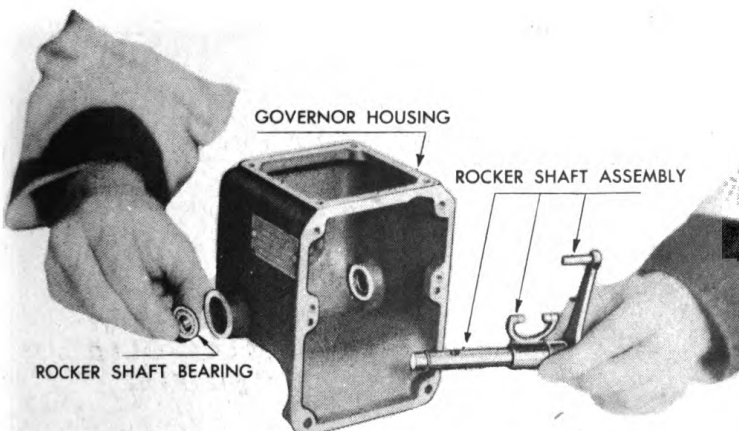

Figure 217. Removing Governor Rocker Shaft.
5. Drive out the throttle lever yoke and shaft assembly with a hammer and punch, shown in Figure 216. If necessary to replace this, install an entire assembly as these parts are carefully spaced and adjusted for angularity at the factory. Remove the rocker shaft and rocker shaft bearing from the housing shown in Figure 217.